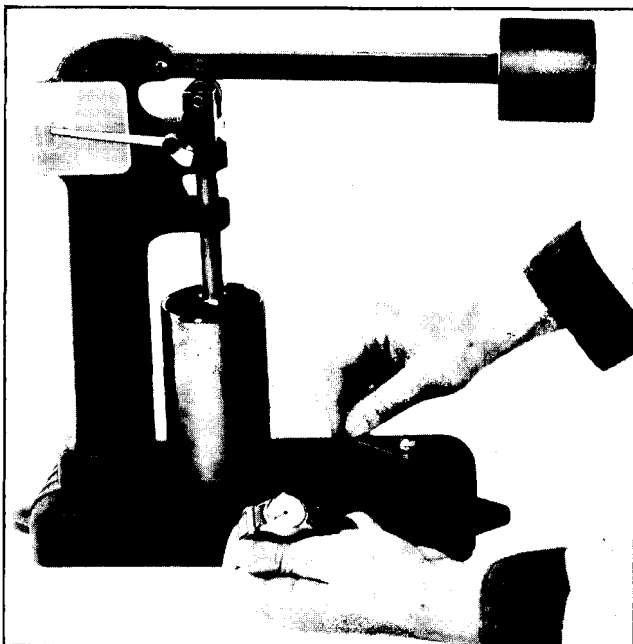

Fig. 6-110 Testing Leakdown Rate
After all lifters have been assembled, the leak-down rate must be checked before they are installed in the engine. Valve lifter leak-down tester J 5790 (Fig. 6-110) is designed to test leak-down rate of lifters to determine whether or not they are within specified limits. As with previous service operations concerned with lifters, cleanliness is important. The tester cup and ram should be thoroughly cleaned, and testing should be done in an area free of dust and dirt. The testing procedure is described in the following steps:
5. Raise weight arm to allow plunger spring to expand fully; lower arm onto ram and commence turning crank slowly (1 revolution every 2 seconds). Time indicator travel from lower line (first line above set line) to line marked .125 or 1/8" while still rotating cup with crank (Fig. 6-110).